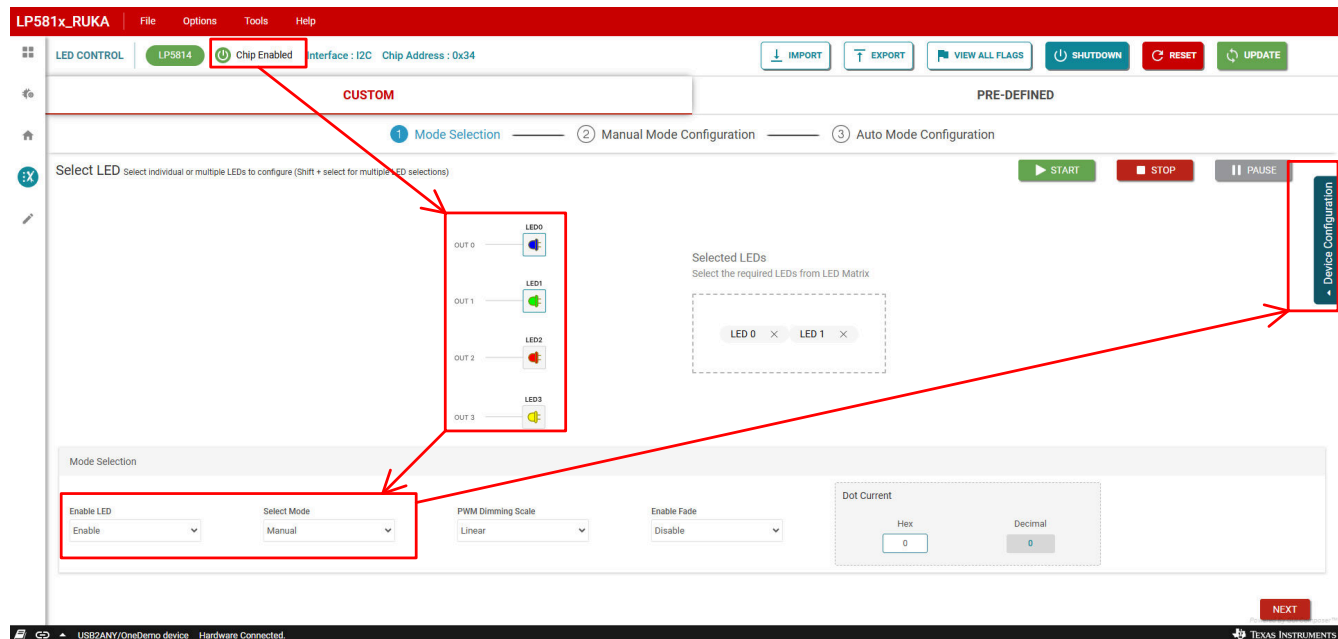

Figure 3-10. Chip Enable and Manual Mode Set
1. Enable chip through clicking *Chip Enabled* button as shown in Figure 3-10.